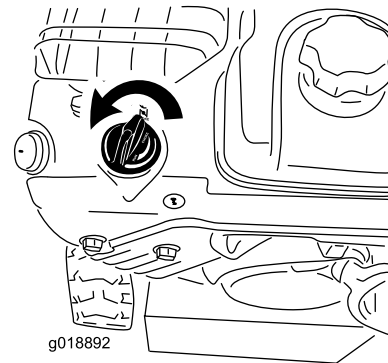

Figure 23
4. Firmly push in the primer with your thumb 2 times (15°F or -9°C or above) or 4 times (below 15°F or -9°C), holding the primer in for a second before releasing it each time (Figure 23).
5. Rotate the choke to the Choke position (Figure 23).